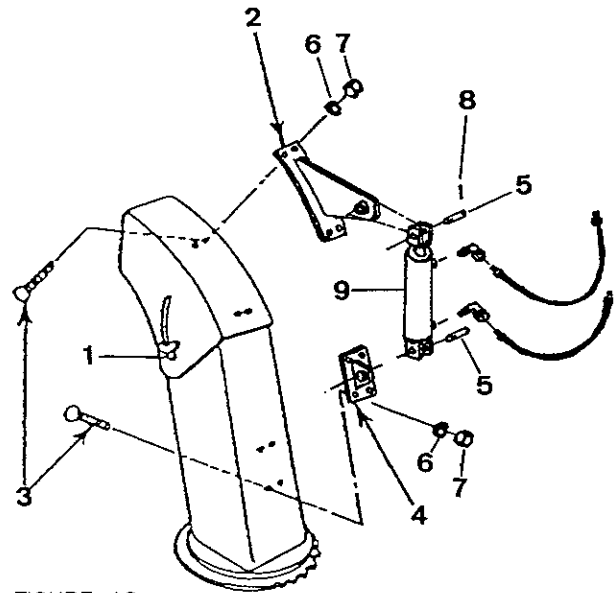

FIGURE 18
- a) Remove the two manual adjustment knobs (fig.18, item 1) and bolts from each side of deflector and replace with two 5/16" x 3/4" carriage bolts, using original nylon washers and two nylon lock nuts, leaving 1/16" play.
- b) Place hydraulic cylinder support bracket (fig.18, item 2) on center of chute deflector, flush with bottom edge of deflector. Using this bracket as a template, drill four 11/32" holes in deflector, and bolt in place with four 5/16" x 3/4" allen flat socket capscrew, lockwashers and nuts (fig.18, items 3-6-7), with the capscrew heads inside the chute. Tighten so that capscrew heads sink flush to inside surface of deflector.
- c) Retract hydraulic cylinder rod (fig.18, item 9) completely and secure to deflector bracket (fig.18, item 2) and chute bracket (fig.18, item 4) which will be installed in section "d" (next), using the two cylinder pins (fig.18, item 5). Block with the two cotter pins (fig.18, item 8). Secure loosely to permit movement.
- d) Open deflector to maximum so that the hydraulic cylinder rod retracts completely. Place chute bracket (fig.18, item 4) on the center (left to right) rear of chute and using bracket as a template, drill four 11/32" holes in chute. Bolt bracket to chute using four 5/16" x 3/4" allen flat socket cap screw, lockwashers and nuts (fig.18, items 3-6-7), with the capscrew heads inside the chute. Tighten so that capscrew heads sink flush with inside surface of the chute.
- e) Install a 90 degree elbow 3/8" male x 1/4" pivoting female (fig.18, item 4) in each cylinder port using thread sealant. With cylinder ports facing you and base end to your left, set both elbows at approximately 2 o'clock. Attach the 48" hose to cylinder base end elbow and the 54" hose to rod end elbow.